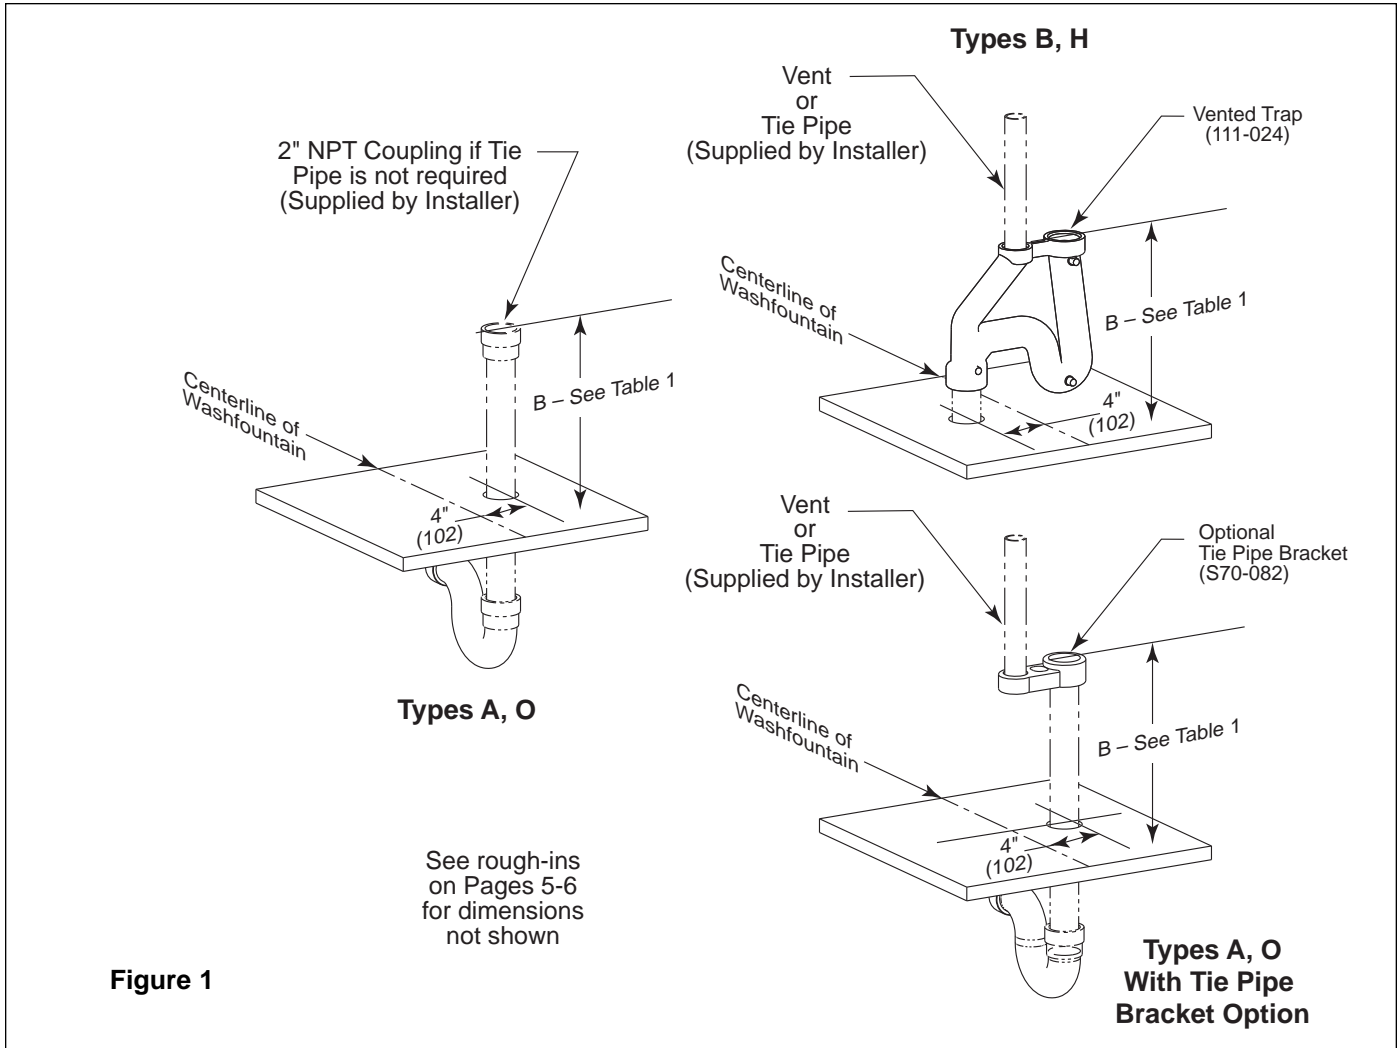

Figure 1
2. Assemble the drain to the dimension shown in Figure 1 and Table 1 for bowl size of the Washfountain you are installing.